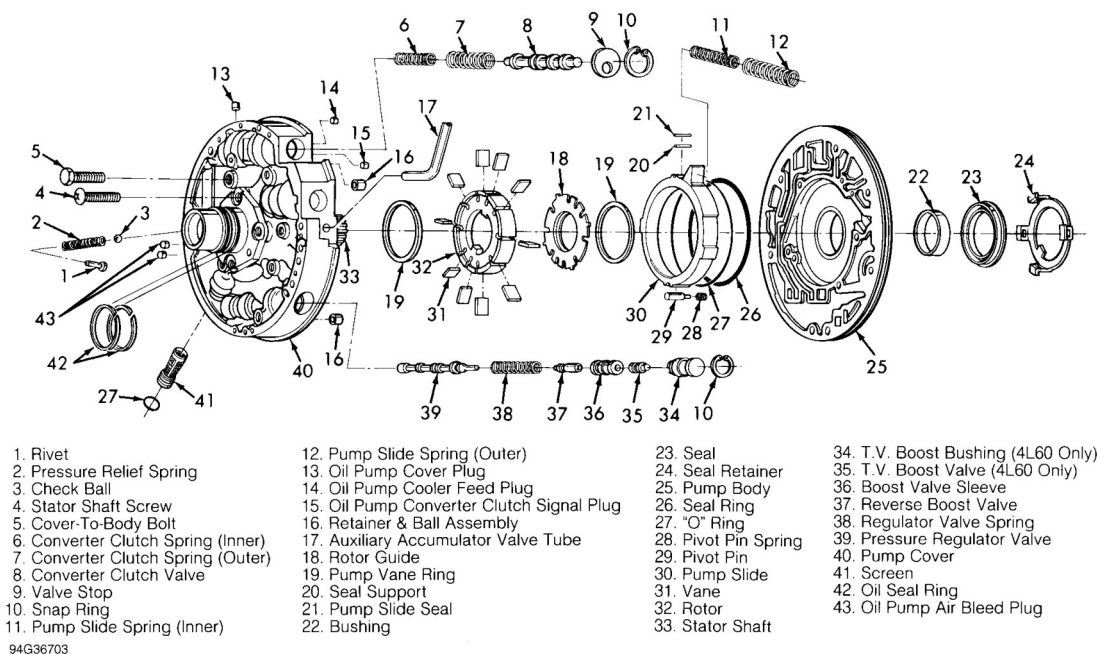

Fig. 31: Exploded View Of Oil Pump Assembly
3. Remove slide from pump pocket. Remove slide seal and seal support from pump slide. See **Fig. 31**. Remove pivot pin and pivot pin spring. Remove seal ring and "O" ring from pump slide. Remove seal retainer and seal from pump body.
3. Install seal in pump body. Install seal retainer. Install pressure relief check ball and spring in pump cover. Install retaining rivet. Install converter clutch valve springs and converter clutch valve. Install valve stop and snap ring. Install pressure regulator valve and spring in pump cover. See **Fig. 31**.